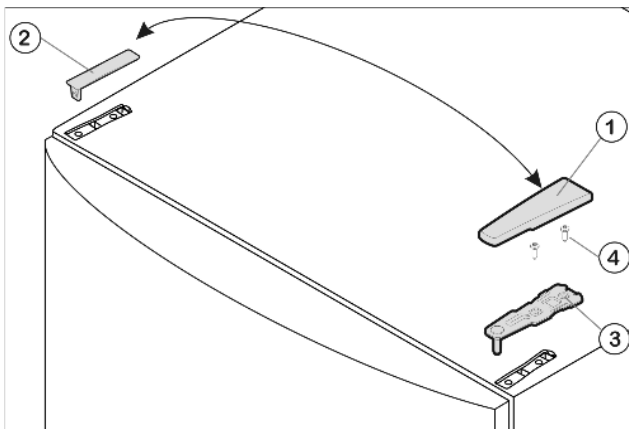

Fig. 4
- ▶ Pull off the cover Fig. 4 (1) forwards and remove cover Fig. 4 (2).
- ▶ Unscrew the upper turn hinge Fig. 4 (3)(2 Torx 25) Fig. 4 (4) and raise it for removal.
- ▶ Insert the upper turn hinge Fig. 4 (3) in the door on the new hinge side.
- ▶ Screw down the upper turn hinge (2 Torx 25) Fig. 4 (4). Possibly make preliminary holes with a bradawl or use a cordless screwdriver.
- ▶ Snap the cover Fig. 4 (1) and cover Fig. 4 (2) into place at the opposite side.